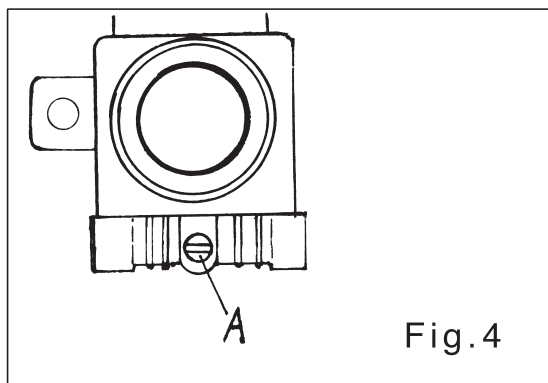

Fig.4
1. Remove screw (A) and drain all the oil from the tank. After draining, tighten screw (a) without fail. Please refer to B-2 for replenishing new oil. (Fig.4)